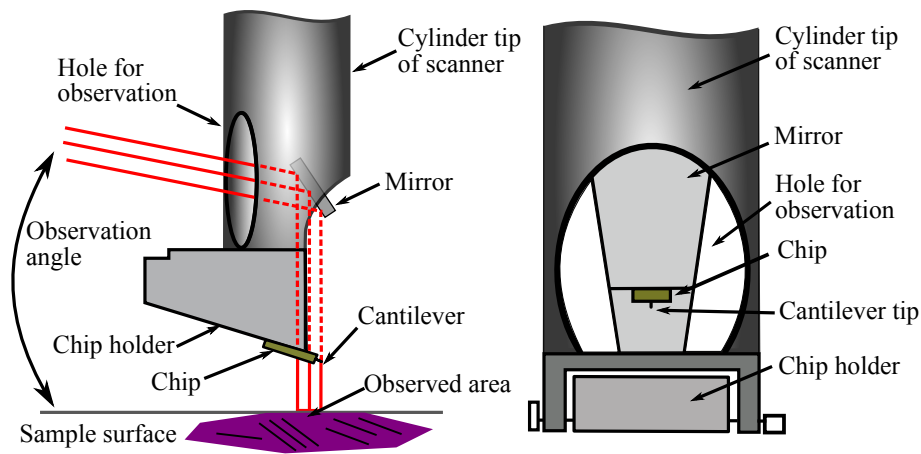

Figure 5: The mirror that allows the cantilever to be seen.
9. Use the microscope and lamp provided to look at the cantilever and laser spot through the mirror hole (see figure 5) . Adjust the laser spot with the two left hand knobs on the SMENA head (1